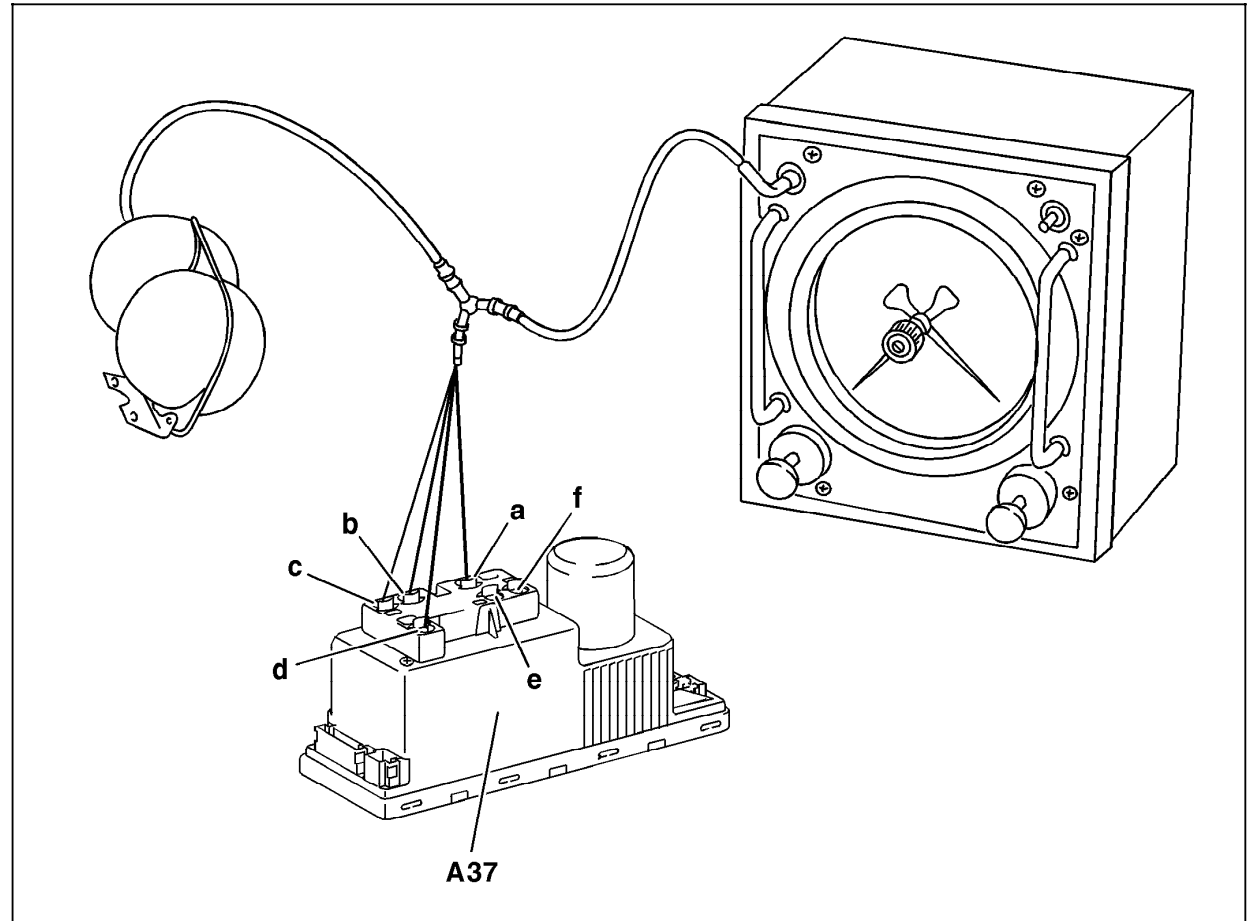

Figure 1
2. Connect vacuum/pressure tester with reservoir to PSE control module (see 32, Figure 1),